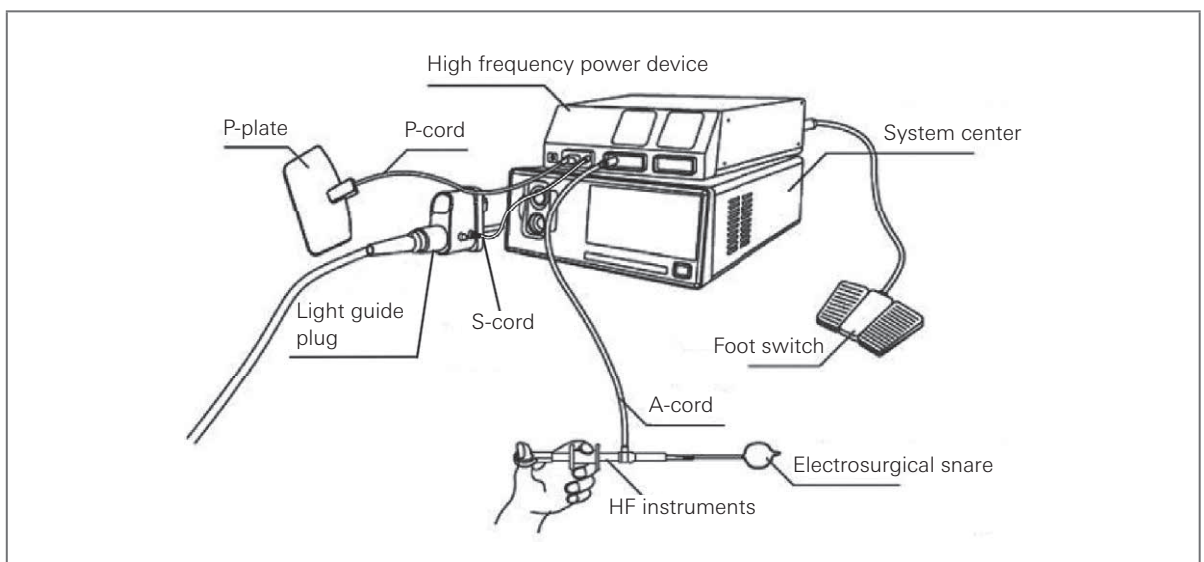

Figure 3.5
- According to the method shown in Figure 3.5, connect the electrosurgical snare and the video endoscope as well as the video processor. For detailed connection method, consult the instructions for the electrosurgical snare and the video processor.